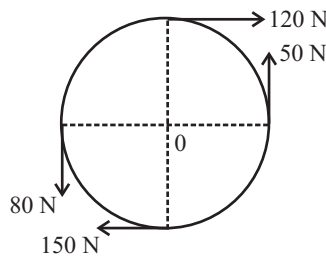

Fig. 7.23
Q. 21: Determine the resultant of force system acting tangential to the circle of radius 1m as shown in fig. 7.23. Also find its direction and line of action (May-00-01)